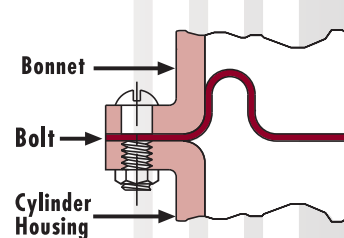

Fig. 23: Bolted Flange
**Bolted Flange (fig. 23)** – The most common method of flange retention is the bolted flange design. The perforations should be at least 15% larger than the ID of the flange bolts or studs. A sufficient number of bolts or studs should be used to eliminate any serious distortion or bowing of the flange between the bolts. This provides a pressure-tight seal that prevents flange pull-out of the diaphragm from between the bolts.